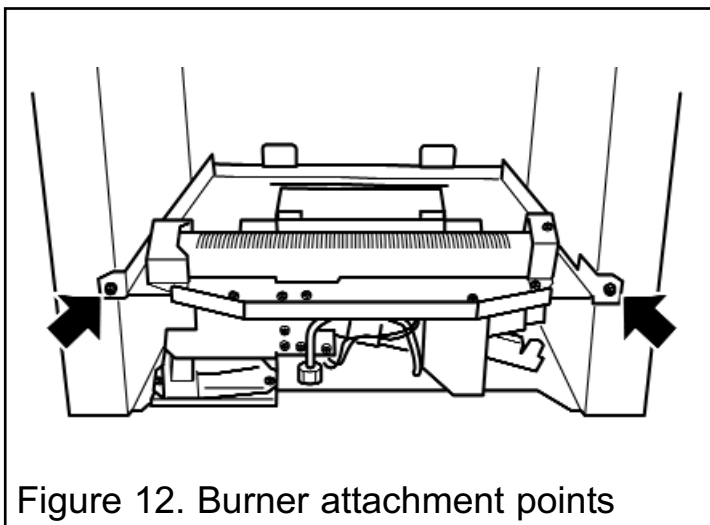

Figure 12. Burner attachment points
1. Detach the burner unit from the hotbox by removing two screws (See figure 12). Lift the burner unit clear.